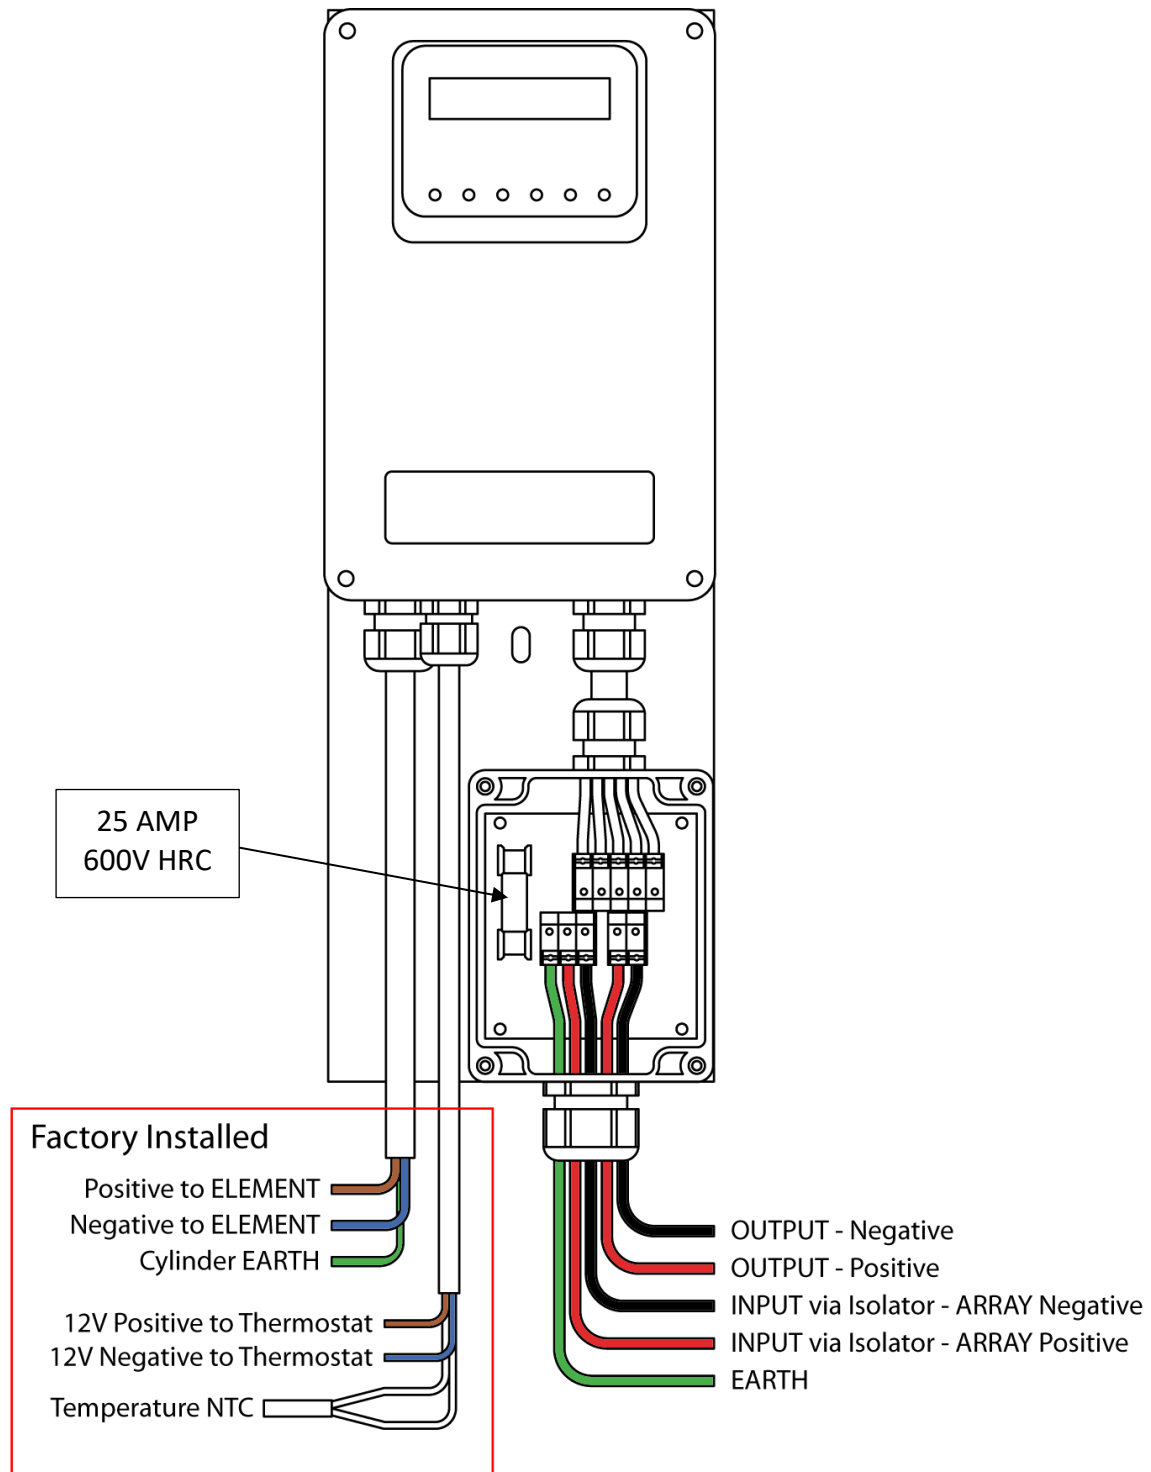
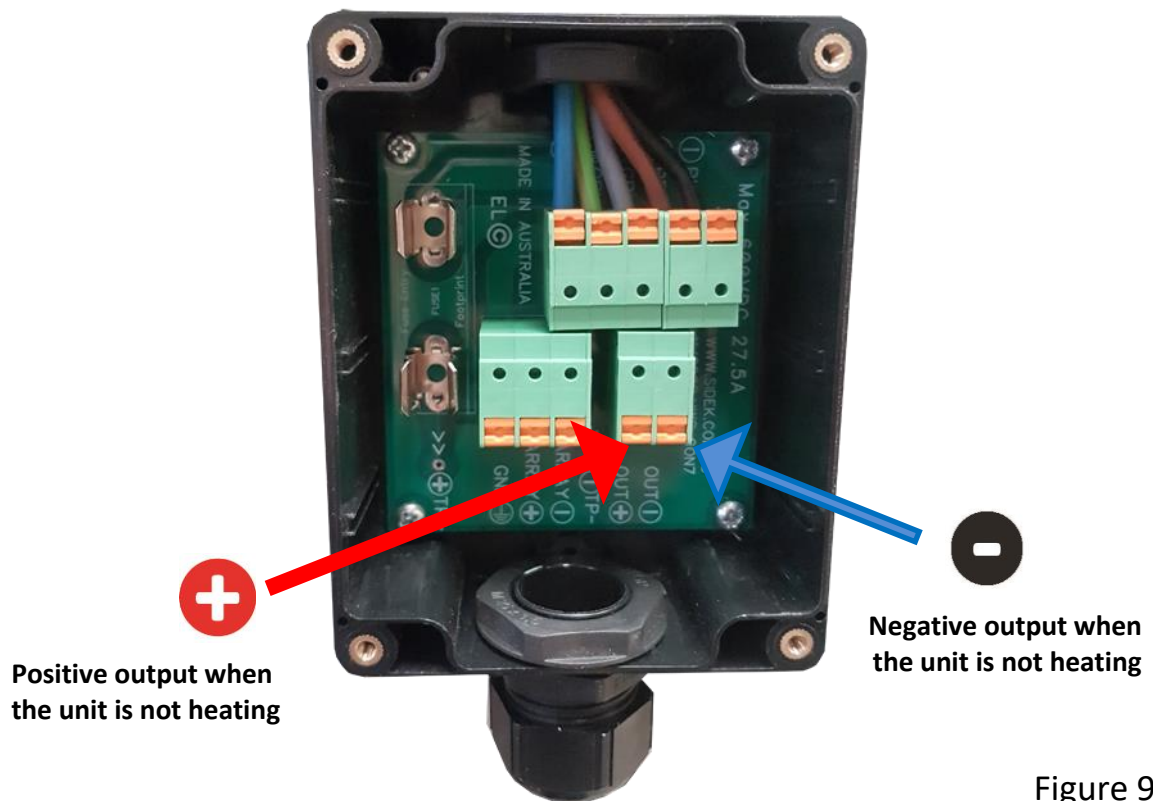

Figure 3.
Figure 9
2. Remove the 4 screws on the connector enclosure (figure 3) to expose the connection terminals.
See Wiring Diagram - Controller - Figure 3 and Figure 9.